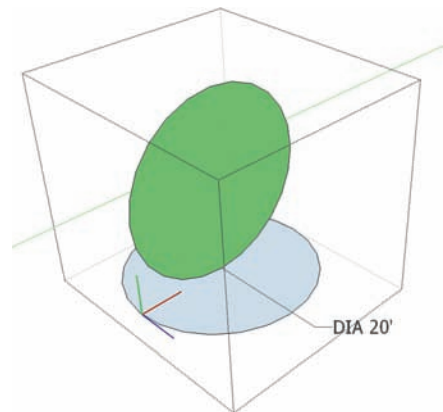

Fig. 8-14: Enter the circle component instance and draft another, horizontal circle at the base of the vertical circle.
6. Enter the component instance of the circle. At the bottom-most edge of the circle, draft another 20'-diameter circle. Make sure the circle is horizontal (Fig. 8-14). Learning to align with the Circle tool can be tricky, but have the patience to orient the new circle to the horizontal plane.